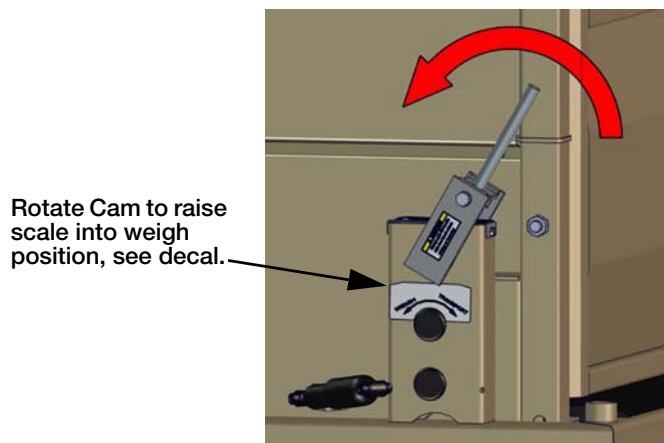

Figure 2-2. Scale Lift
5. **USING BOTH HANDS**, raise the platform to enable the scale (see Figure 2-2).